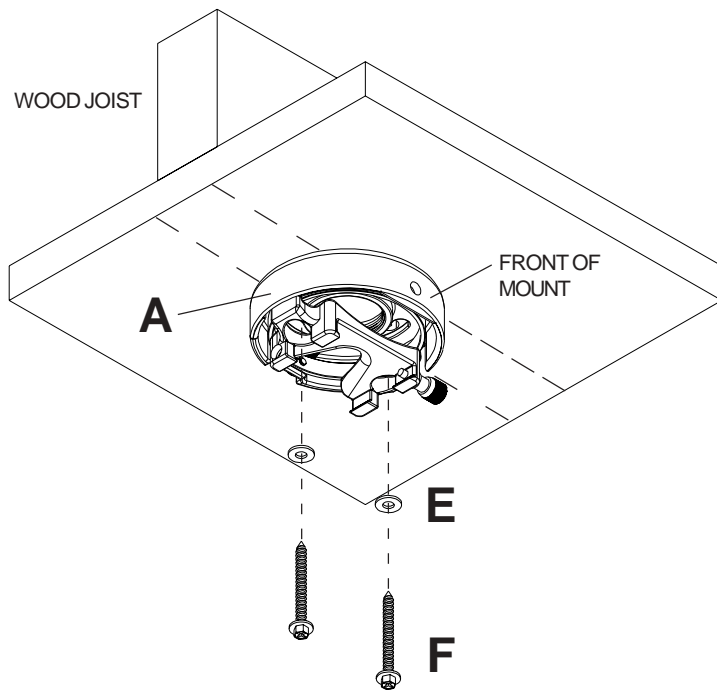
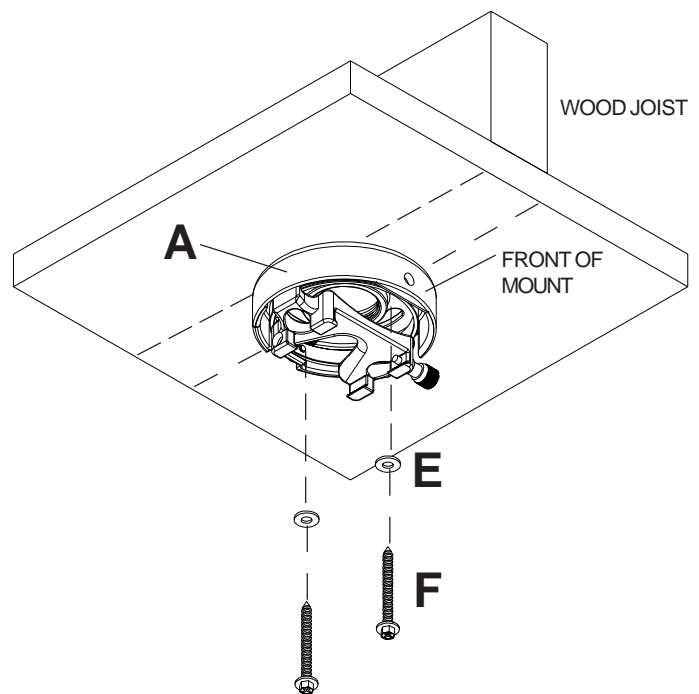

figure 1
figure 2
- 2** Drill two 5/32" (4 mm) dia. holes to a minimum depth of 2.5" (64 mm). Attach projector mount assembly (A) with two #14 x 2.5" (6 mm x 65 mm) wood screws (F) and two flat washers (E) as shown in **figure 1** or **figure 2** depending on joist orientation. Tighten wood screws (F) using 3/8" (10 mm) socket wrench until projector mount assembly (A) is firmly attached.